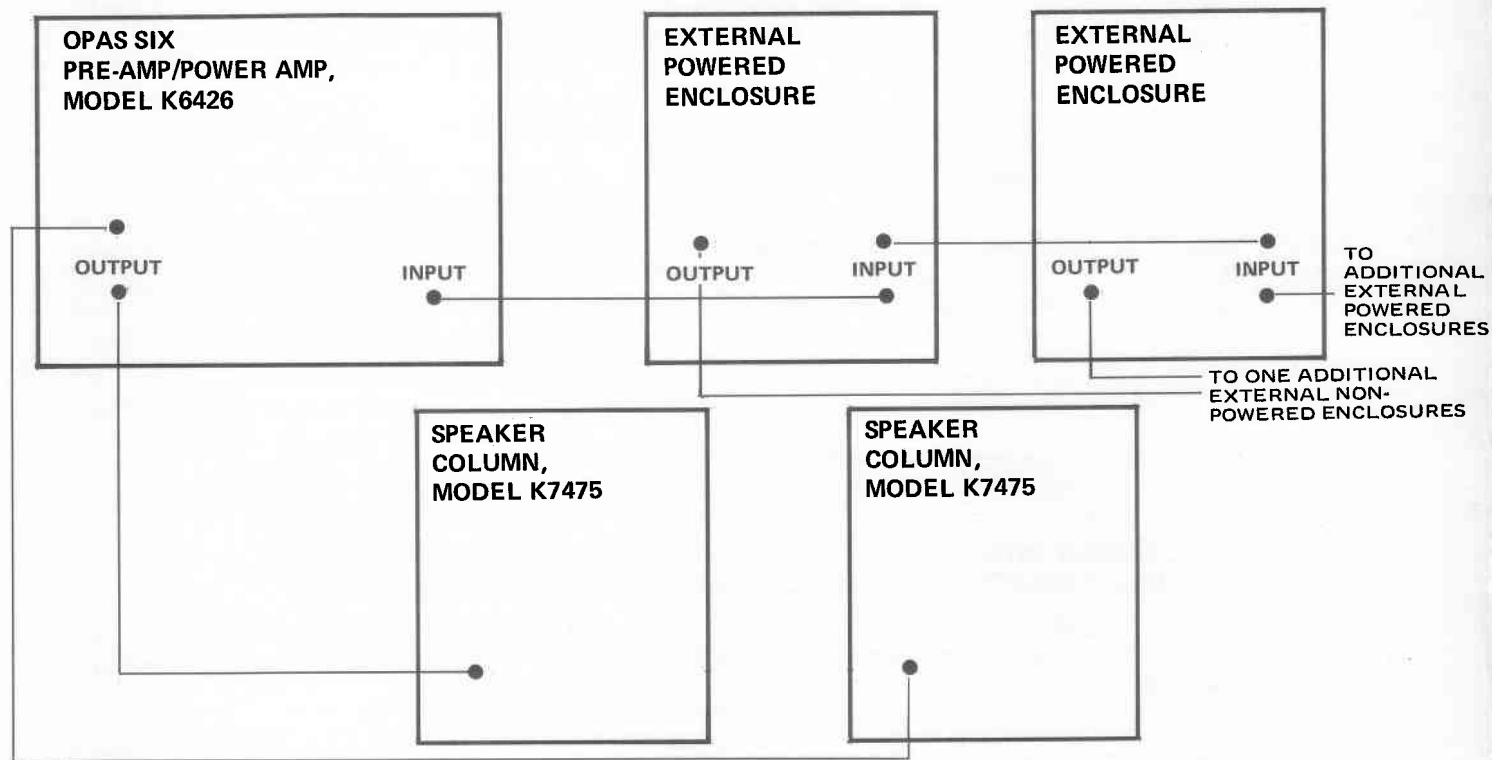

Figure 3. Typical Connections of OPAS SIX System Components with External Enclosures
- Q. **INPUT JACK (GREEN)** — The green INPUT jack allows more than one external powered enclosure to be connected in parallel (with standard 1/4-inch phone plugs and shielded cords) for increased output. To make these connections, first connect the amplifier INPUT jack (green) to the green INPUT jack of the first external powered enclosure as shown in figure 3. If a second external powered enclosure is to be connected, make a connection from the remaining green INPUT jack of the first external enclosure to the green INPUT jack of the second enclosure. Connections to additional powered enclosures can be made by repeating this sequence.
- R. **OUTPUT JACK (RED)** — The red OUTPUT jack is required to drive the speaker columns, and any other unamplified speakers of Ovation Freq-Lites (see figure 3). The red OUTPUT jack will accept the standard 1/4-inch phone plug with heavy, unshielded cord.
- T. OUTPUT JACKS (RED)** — Four red OUTPUT jacks are provided on the rear of the cabinet for connections with the pre-amp/power amp red OUTPUT jack, between the speaker columns, and with any additional external unpowered enclosures as shown in figure 3. To make these connections, first connect the amplifier OUTPUT jack (red) to the red output jack of the first speaker column. To connect the second speaker column, make a connection from one of the remaining red output jacks on the first speaker column to one of the red output jacks of the second speaker column. Connections to additional unpowered enclosures can be made by repeating this sequence. Use a standard 1/4-inch phone plug with heavy, unshielded cord to make connections.